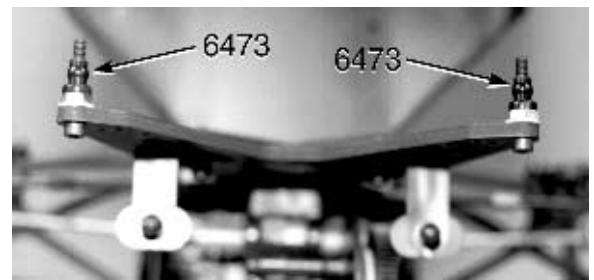

Fig. 133
□ **Figs. 132, 133 & 134** Now we are ready to start installing the shocks onto the truck. We will start with the rear shocks. **(1)** From bag #7-9 remove two #6927 4-40 x 3/4" SHCScrews, two #6936 #4 aluminum flat washers, and two #6295 4-40 plain nuts. **(2)** Screw the 3/4" SHCScrews into the top outside hole of the rear fiberglass shock strut, from the back (transmission) side as shown in fig. 132. **(3)** Now install one of the #4 flat washers on the front and then thread on the 4-40 plain nut. **(4)** Tighten the screws and nuts. **(5)** Now go back to bag #7-9 and remove the two #6473 nylon shock bushings. **(6)** Install one onto the threads of the two screws we just installed (see fig. 133). Make sure that the flange of the bushing is against the 4-40 plain nut.